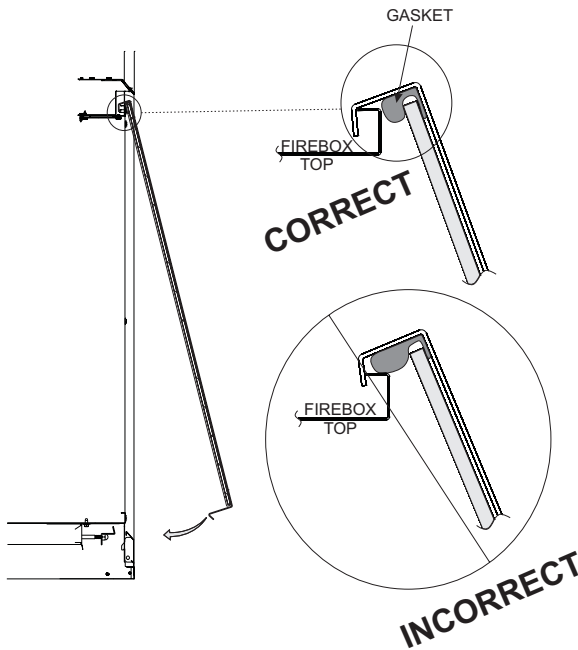

Figure 34
1. When installing the Glass Door assembly, make sure that the door top flange is hooked over the firebox top flange as illustrated in the "Correct" view in **Figure 34**.
Important: Do not allow the gasket across the top of the door to roll up on top of the firebox flange as shown in "Incorrect" view in **Figure 34**.